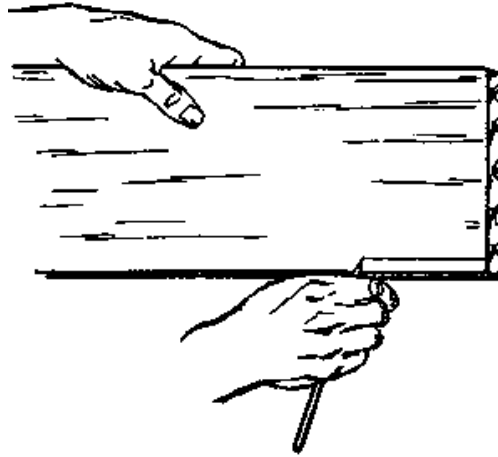

Fig. 1
- Grasp the pencil lightly in your closed fist with the point protruding the desired distance. For example, to make a line 1 cm from the edge of the timber, the point of the pencil should stick out exactly 1 cm from your fist. Now pull the pencil along the board keeping your thumbnail pressed firmly to the edge of the board (Fig. 1).